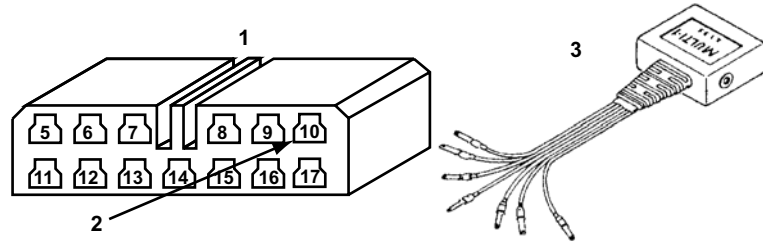

Figure 15-21 13-pin Check connector
- Connect the MULTI-1 adapter blue wire to Check connector pin 10 (Figure 15-21).